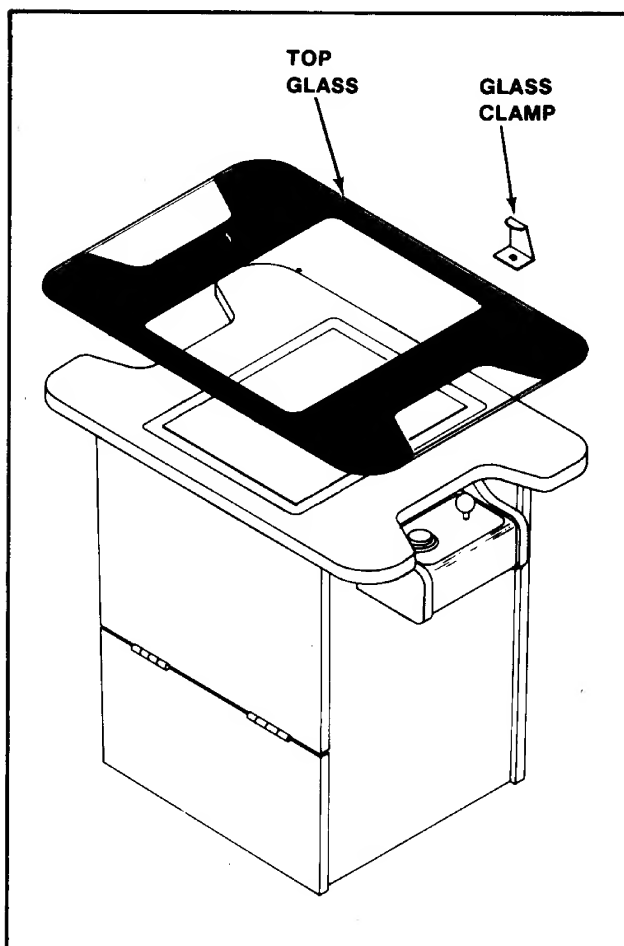

Figure 4-7 Removing Top Glass & T.V. Bezel
3. COCKTAIL TABLE MODEL: See Figure 4-7.